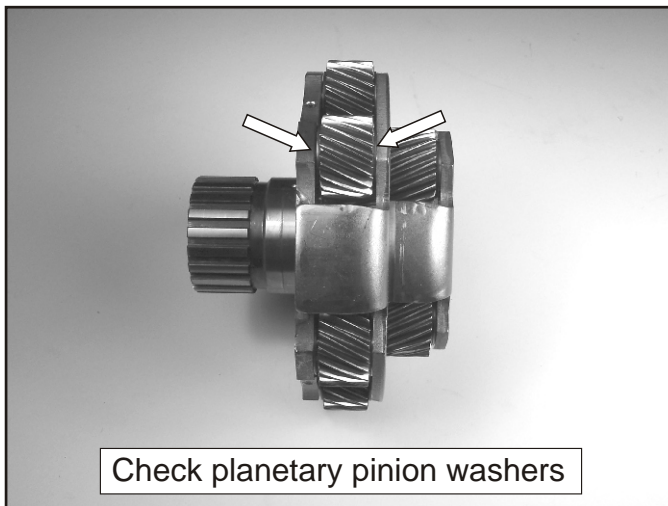

Figure 241
- 169. Inspect the planetary pinion washers as shown in Figure 241. Replace as necessary.